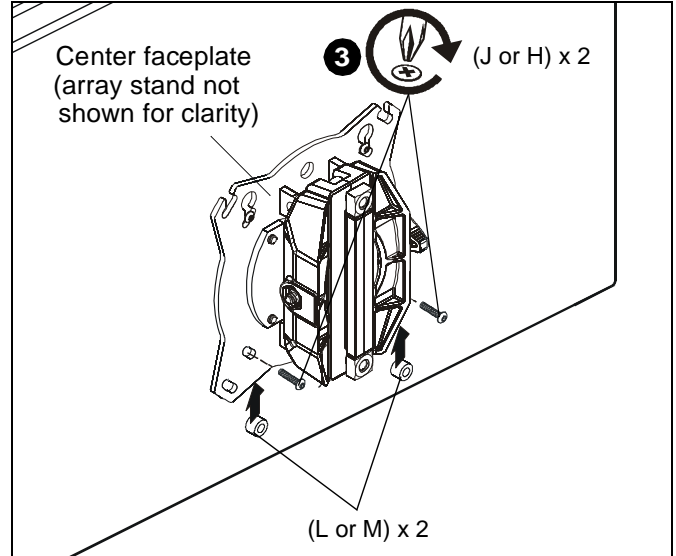

Figure 13
5. Slide two remaining selected spacers (L or M) in between faceplate and display, positioning them over the *lower* two mounting holes. (See Figure 13)
6. Install two remaining selected screws (J or H) through *lower* two mounting holes on faceplate, selected spacers (L or M) into the *lower* mounting holes on the display. (See Figure 13)